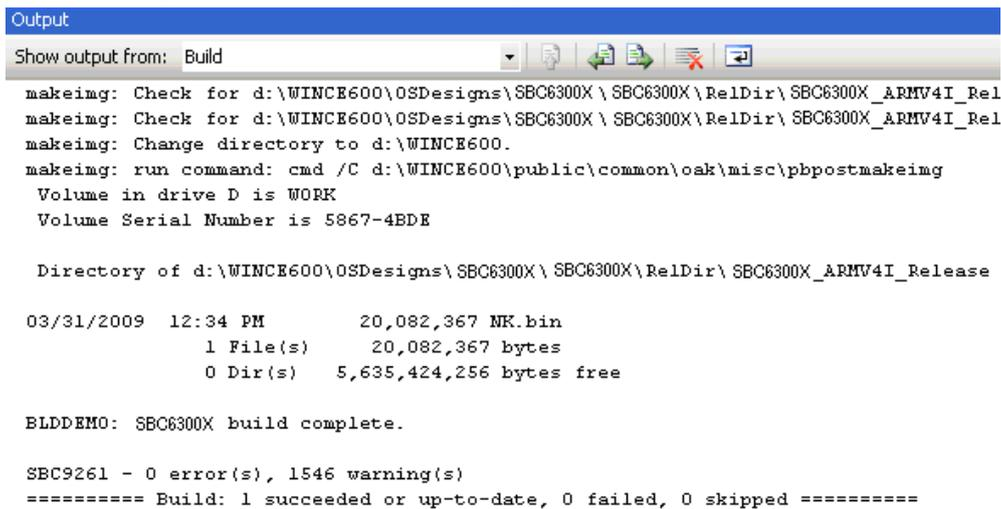

Figure 6.17
18. As the compilation may take a long time (depends on the hardware configurations of development workstation), please wait. After the system compilation is successful, VS2005 will export the following information as shown in Figure 6.17: